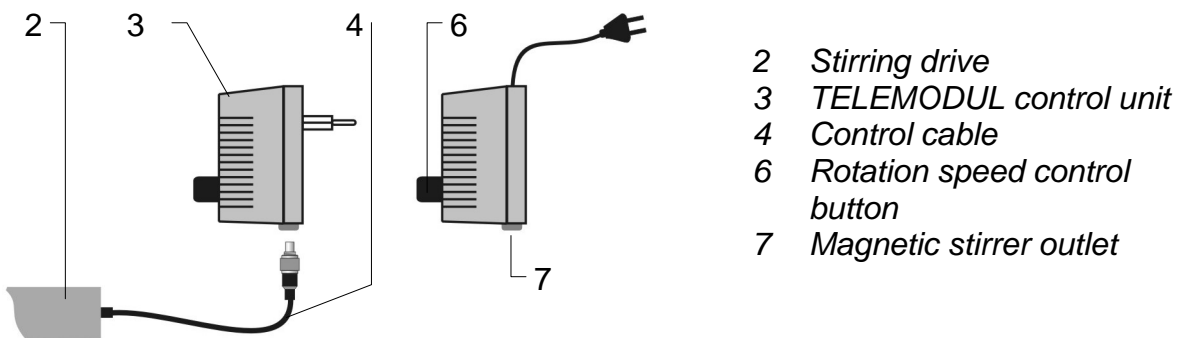
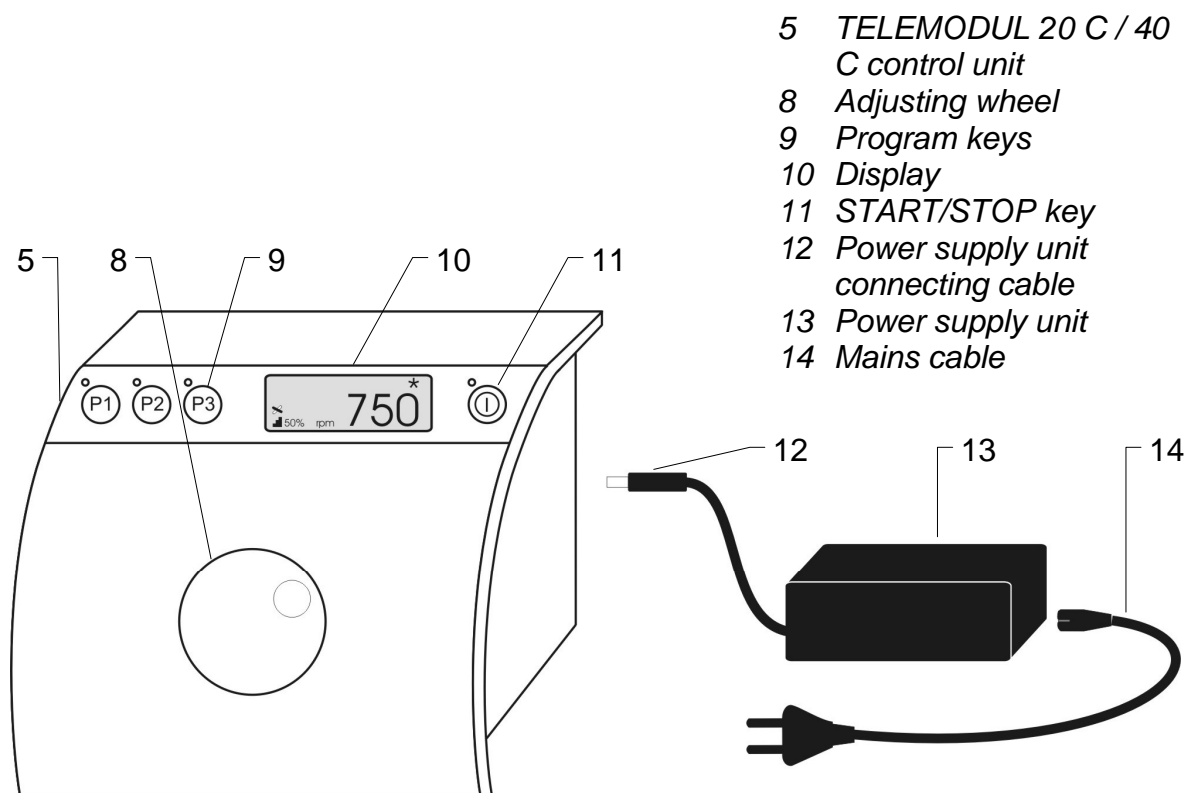

Figure 2: TELEMODUL control unit as plug-in control unit (left) or with mains cable (right)
Figure 3: Control unit TELEMODUL 20 C / 40 C with power supply unit
The stirring drive (2) gets its power either from the TELEMODUL control unit (3; Figure 2) or the TELEMODUL 20 C / 40 C control unit (5; Figure 3).